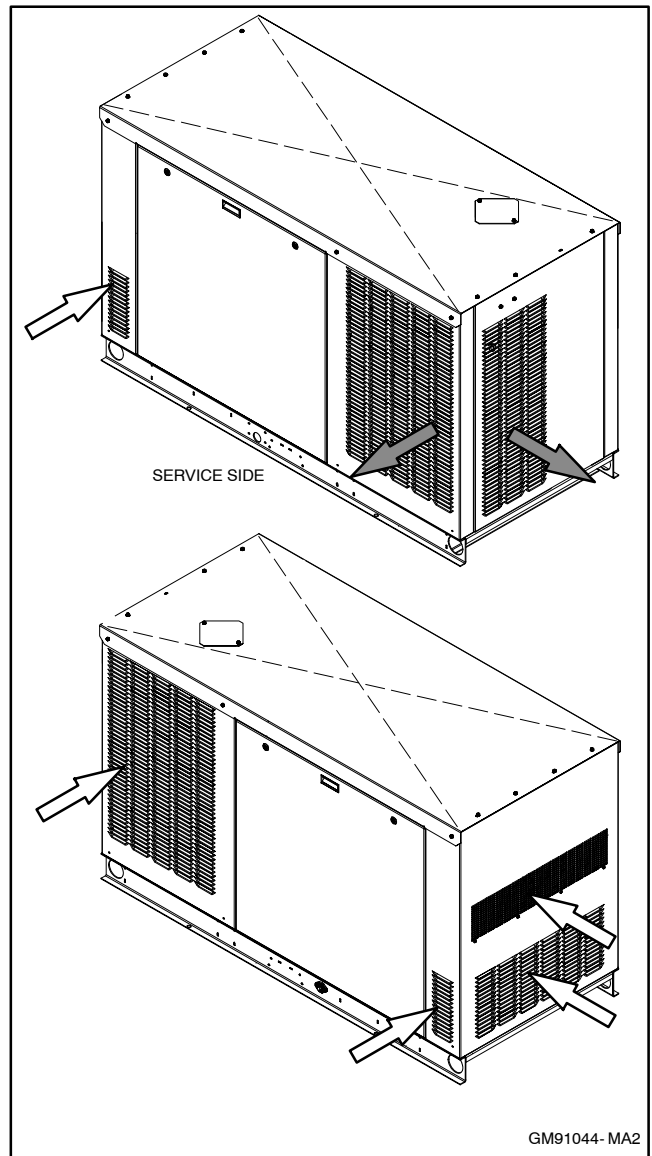

Figure 1-5 Air Intake and Exhaust
- Provide clearance for cooling air flow and access for service. See Figure 1-5 and the dimension drawings in Section 4 for required minimum clearances from obstructions and combustible materials.